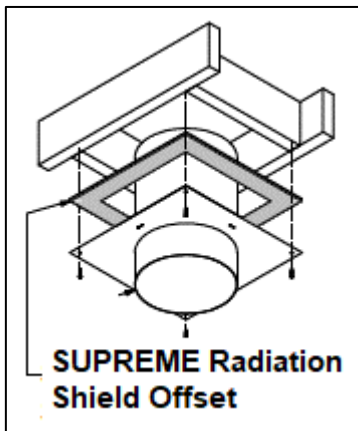

Figure 2-8: SUPREME Radiation Shield Offset
The SUPREME Radiation Shield Offset is a standard component for the Astra 32 fireplace (Figure 2-8). Prior to installing the chimney manufacturer's radiation shield, the SUPREME Radiation Shield Offset is fastened below the chimney opening within the chase, with the flanges along the component providing a  $\frac{1}{2}$ " offset.
2. For an installation with the chimney running through the ceiling, install the SUPREME Radiation Shield Offset below the chimney opening prior to installing the radiation shield (refer to Figures 2-8 and 3-7).